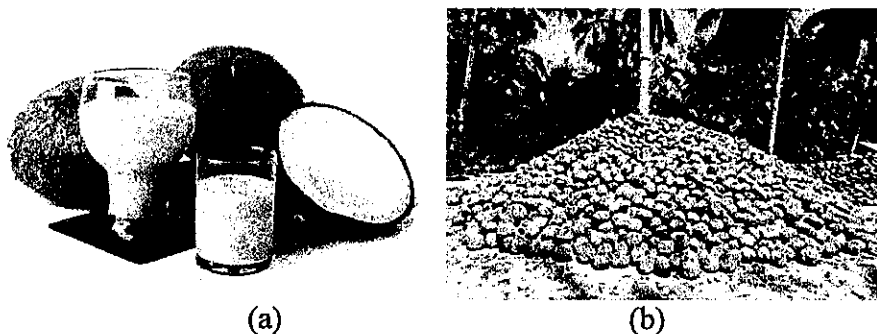

Figure 1: (a) the coconut milk and (b) a pile of coconuts after harvesting.
1. This paper contains **FOUR (4)** questions and comprises **SEVEN (7)** pages.
- 1(a) A non-governmental organization (NGO) is developing affordable and compatible technologies to help poor island communities in South Asia. One such project is the mechanization of the process of producing coconut cream, see Figure 1(a), a product derived from mature coconuts. Currently, the coconuts are harvested and collected in piles, Figure 1(b), at the coconut plantations. Farmers employ manual laborers to dehusk the coconut and break them into halves. The fleshy part is then scrapped off, ground down and pressed to remove the coconut cream which are all labour intensive processes. As a member of team of mechanical engineering designers, you are charged with the design of a continuous mechanized process taking the coconuts at the start and collecting the cream in large barrels in the last stage, thus improving the productivity of the process. The barrels of cream will be pasturised and canned for export at another factory off-site. You may assume that electrical power is available on-site.